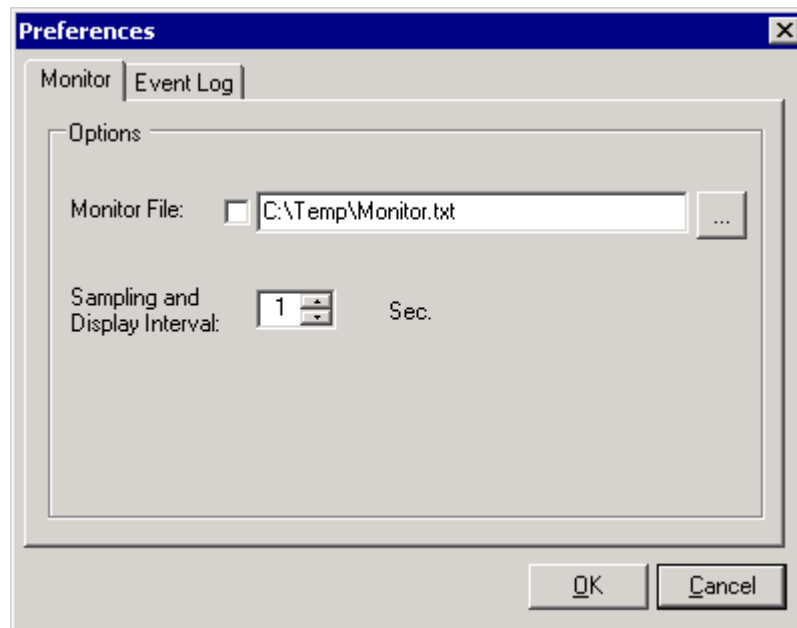

Figure 5-3. Preferences Dialog Box, Monitor Tab
2. From the Preferences dialog box, select Monitor tab (see Figure 5-3).